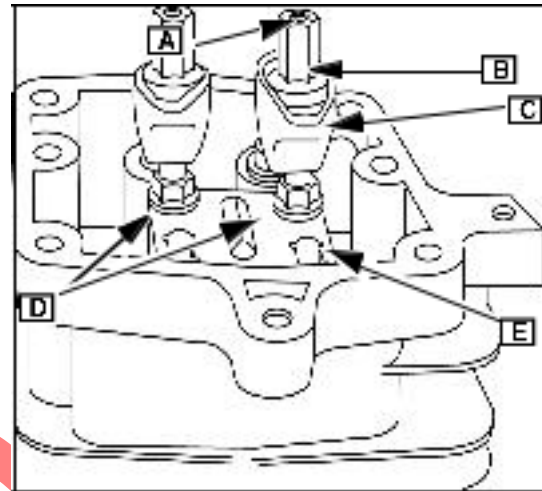

Fig. 5
Remove rocker arm studs (D) and push rod guides (E) Fig. 5), if equipped.
1. Loosen rocker arm set screws ([A] Fig.5).
2. Remove rocker arm nuts (B), and rocker arms (C).